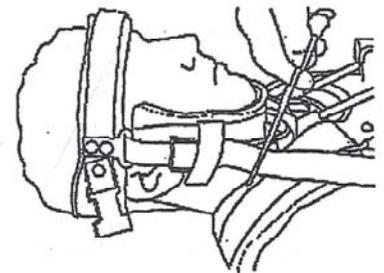

Figure 5: Adjusting the A/P of the forehead band.
- Adjust the chin support tether loops so they are snug. Excess strap should be cut off (FIGURE 5).